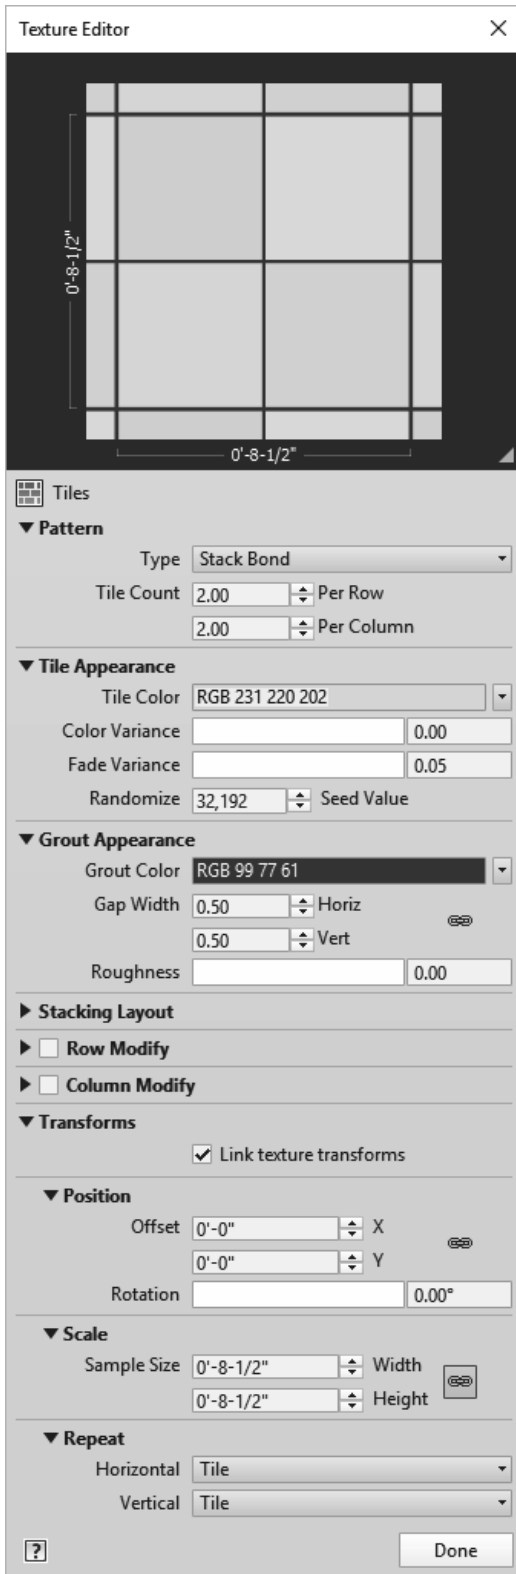

FIGURE 4-4.5 Texture editor
You are now in the *Texture Editor* shown in Figure 4-4.5. Here you can adjust all sorts of settings related to how the tile pattern should appear. One of the adjustments one can make is the tile pattern. Is the pattern stack bond, running bond, common Flemish bond, etc.? You can even adjust the grout color and size.
22. Make the adjustments shown in Figure 4-4.5.